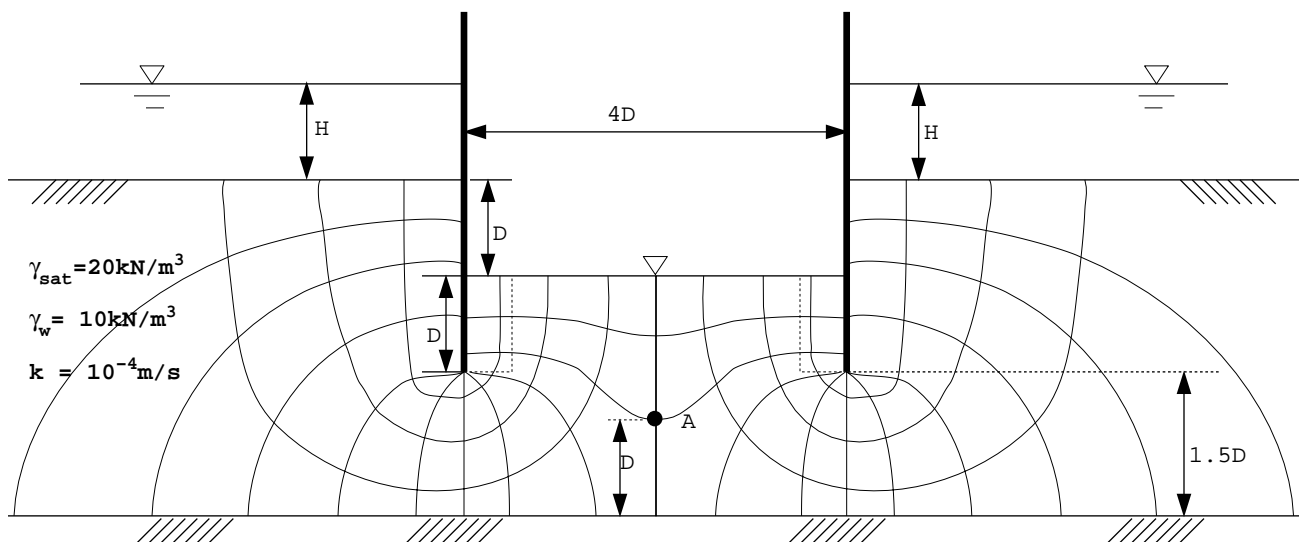

Figure 1. Seepage around sheetpile walls.
To build an underwater foundation, a temporary sheetpile wall system has been constructed as shown in Figure 1, and the soil has been excavated to a depth of $D=4\text{m}$. The water level H on the back side of sheetpile is 3m. The corresponding flownet for this problem is also shown in Figure 1.
- How high H would water have to be on the back side of the sheetpile wall to create an unstable situation in the critical regions? (Assume that the water level in the excavation remains as shown in Figure 1.)